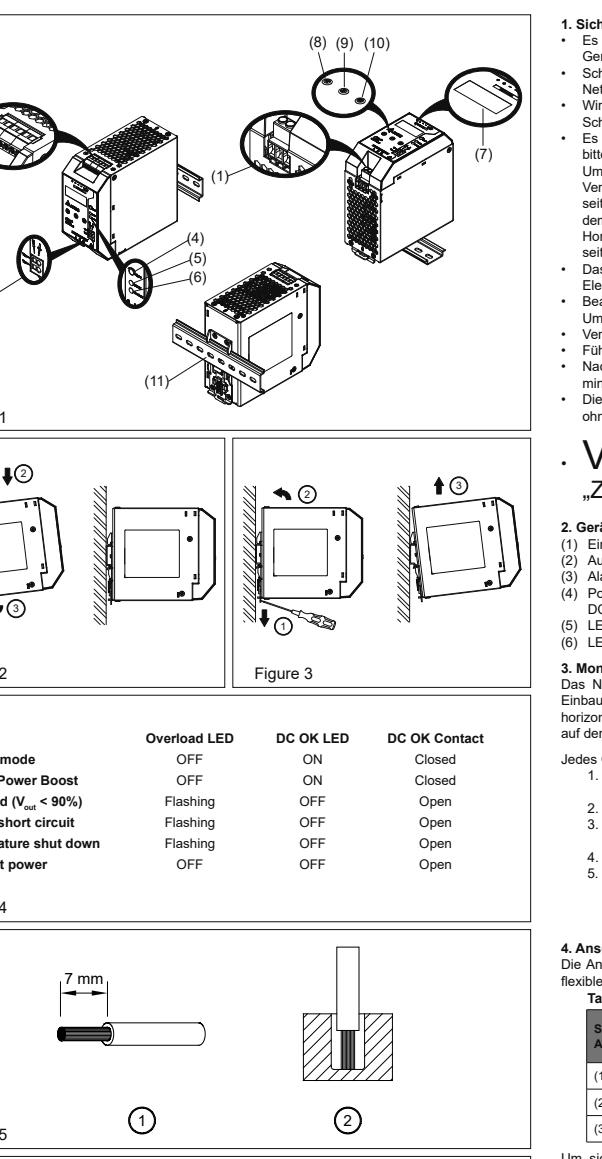

Figure 5
(1) 0.82-8.4	18-8	9.3	8.1
(2) 0.82-3.3	18-12	6.3	5.4
(3) 0.52-1.3 (feste Kabel)	20-16 (feste Kabel)	-	-
To secure reliable and shock proof connections, the stripping length should be 7mm (see Fig. 5 (1)). Please ensure that the wires are fully inserted into the connecting terminals as shown in Fig. 5 (2). All wire strands must be fully inserted into the terminals with the screws securely fastened in order to ensure safety and maximum contact.